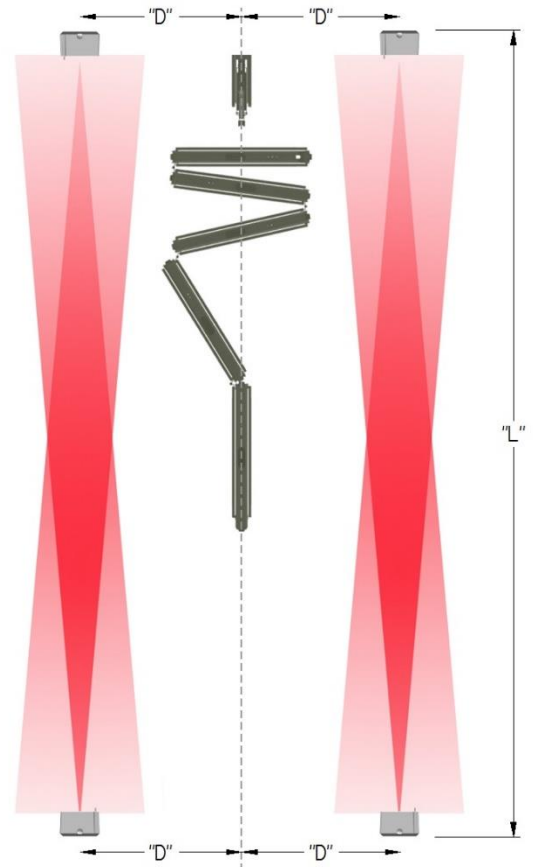

Figure 3
The (4) motion sensors are to be mounted in the orientation shown in *Figure 3*. There are to be two sensors on each side of the wall, with the beams facing into each other.